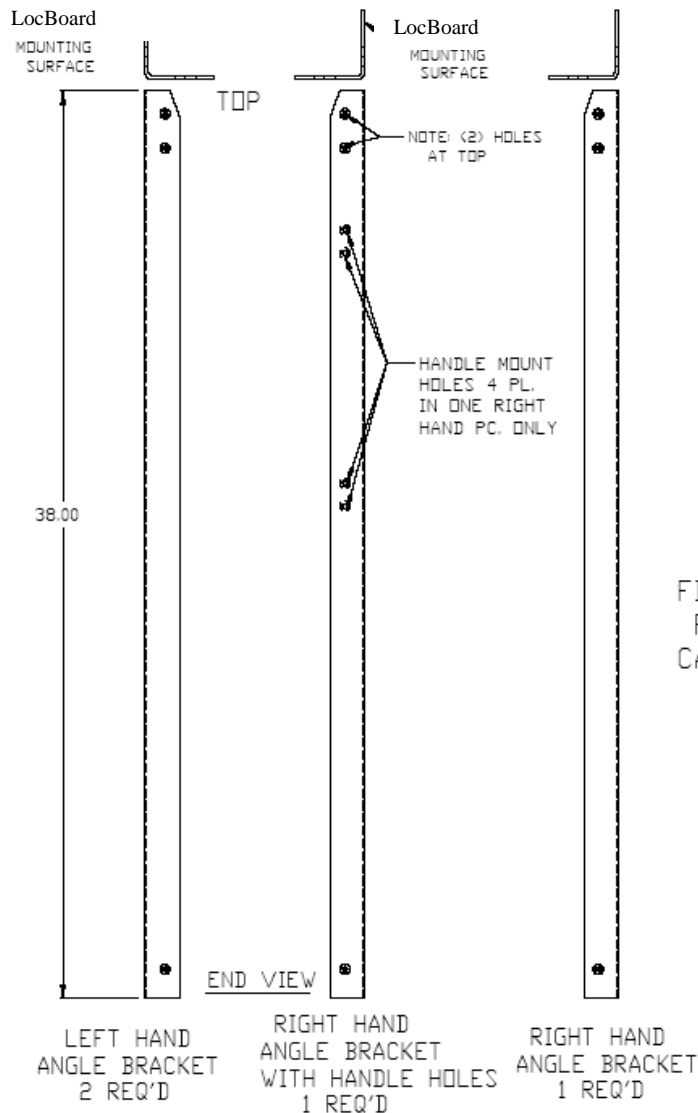

FIG. 1-1
- Inventory and inspect all components before starting assembly (Use figure 1-1 page 3)
1. Locate the (4) corner angle brackets. Using Parts Call-Out figure 1-1 page 3, identify the left from the right brackets and their top edge from their bottom edge. The top's edge can be identified by the angle cut into each bracket and its 2 top bolt mounting holes when looking from the END view.
4. (Refer to Figure 1-1, 2-1 and 2-4) Installing Top Rail: Top rail will be positioned inside both sets of installed corner angle brackets at each end. From the front edge install  $\frac{1}{4}$ "-20x3/8" tapered flat head screws with undercut head through top counter sunk holes on front side of each corner angle bracket and into preinstalled threaded inserts in the top rail and tighten. (Repeat step #4 for all top corners angle attachments to top rail.)
5. (Refer to Figure 1-1 and 2-4) Attaching rail end bracket to top rail and corner angle brackets; Position end bracket with taper facing up and preinstalled fasteners facing inward (flat surface of end bracket with the flat inside surface of angle brackets.) Slide end bracket in and behind both right and left corner angle brackets. Align the four bolt holes of each corner angle bracket with the preinstalled fasteners on rail end bracket. Install (4)  $\frac{1}{4}$ " truss head bolts with and tighten partially. (Repeat step #5 for opposite end.)